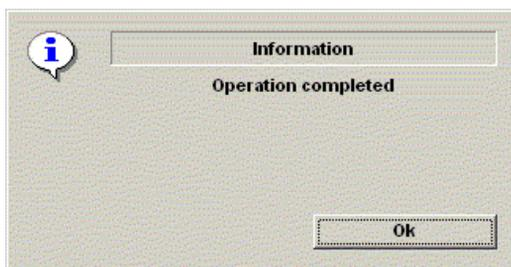

Figure 4-59 Archive Operation Complete Message
- 9.) Press OK. An in-progress message appears. The archive operation is complete when you receive the message shown in Figure 4-59.